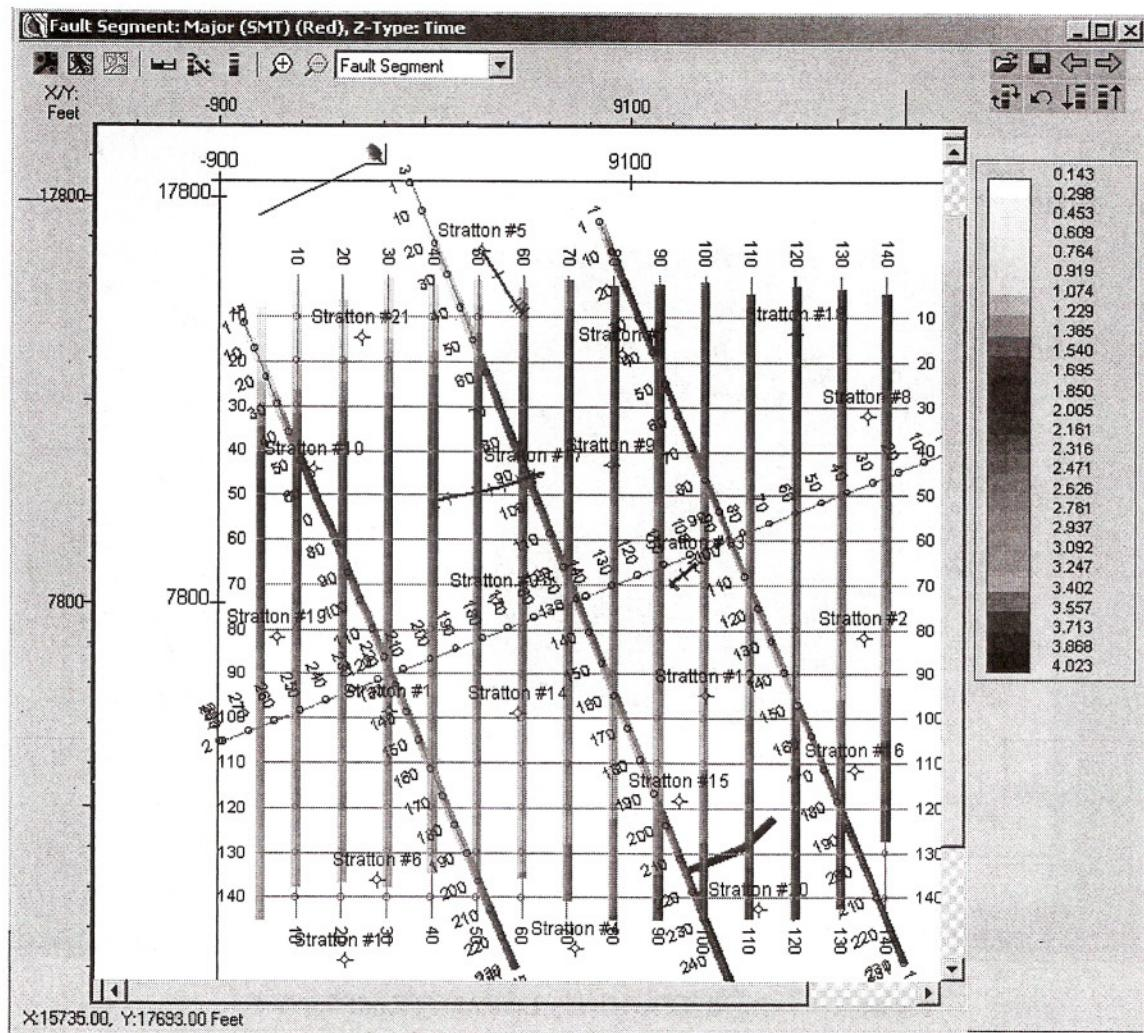

Figure 3.6 — Fault Segment with Rainbow 25 ColorBar
2. Change the display to fault segment to view the fault picks as displayed below in Figure 3.6.